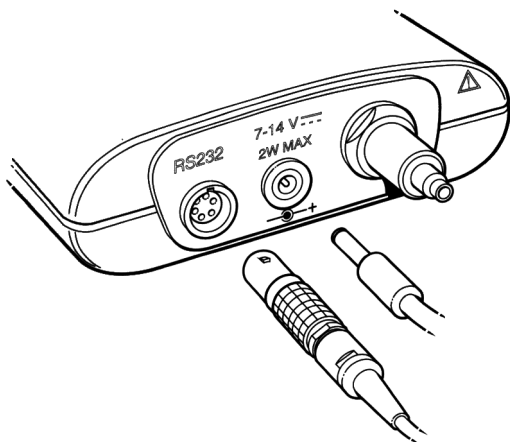

Figure 2-2 Electrical connection
2.2 Electrical connections **(Figure 2-2 and 2-3)**